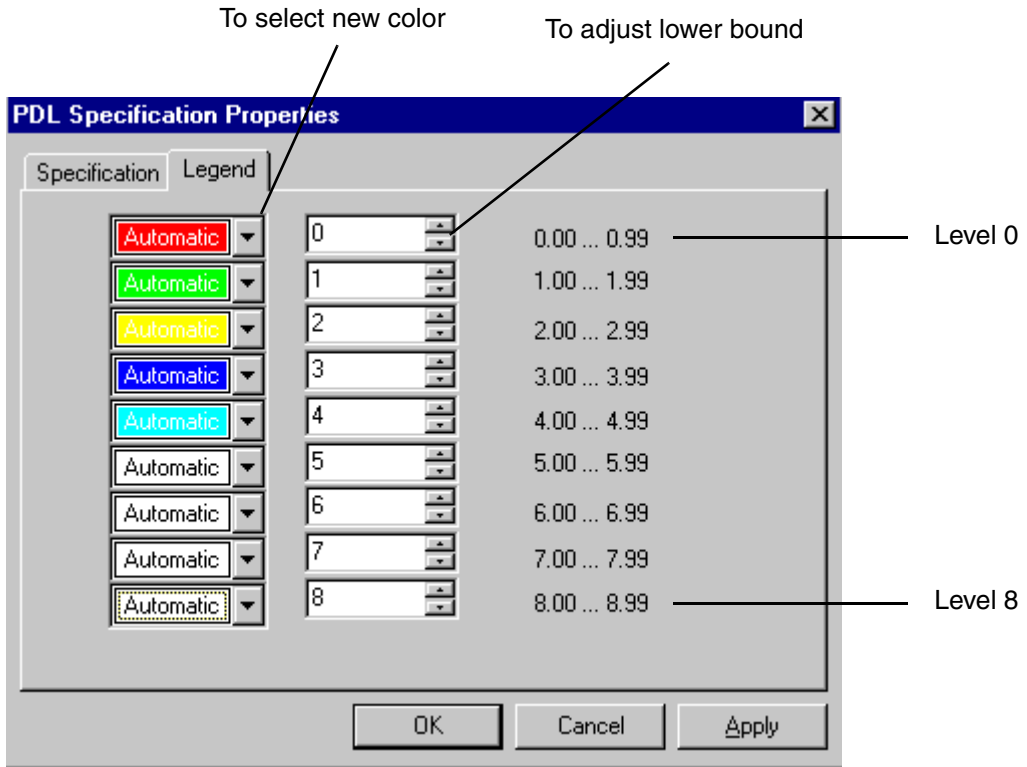

Figure 21. PDL Specification Properties - Legend Tab
8. Use the Legend tab, Figure 21, to adjust contour level specifications as needed. The Legend tab lets you change the color and/or lower bound for each contour level.
The **Legend** tab contains a row for each contour level, Figure 21. The range for each contour level is indicated at the far right side of each row. The default color for each contour level is set according to the specification palette configuration as described in Changing Default Colors for Profile Specifications on page 44.